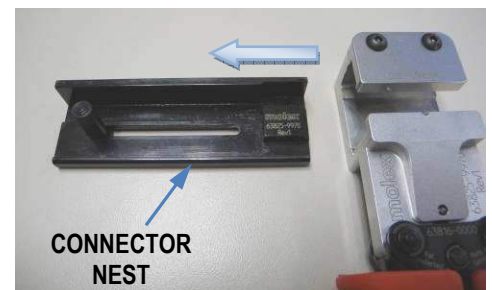

Figure 1
- Slide the adjustable post to the end of its slot, the farthest away from the stop block. See Figure 1.